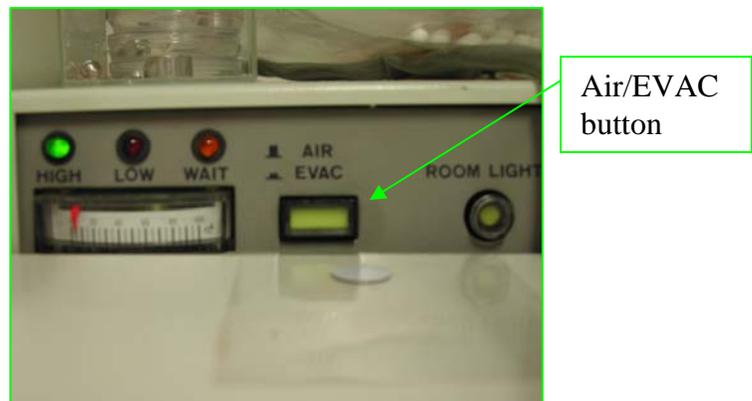

Figure 2
3. Vent the chamber by pressing the *Air/Evac* button (Figure 2) on the column control panel, and wait for the chamber to come to atmosphere.
6. Press the *Air/Evac* button (Figure 2) to pump down the chamber.